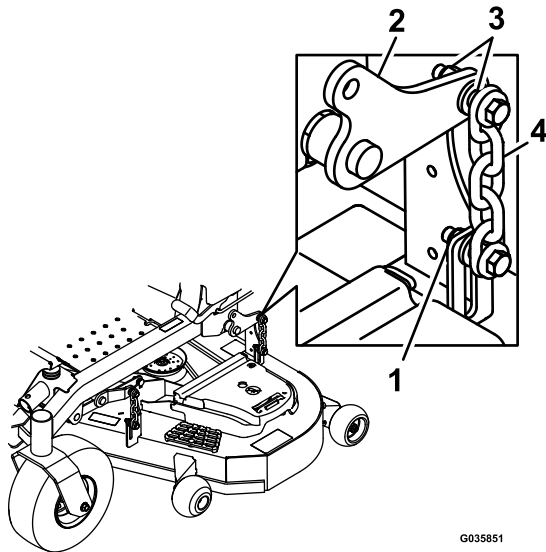

Figure 102
16. Loosen the locknuts (Figure 102) on all 4 corners and ensure that the mower deck is sitting securely on all 4 blocks.